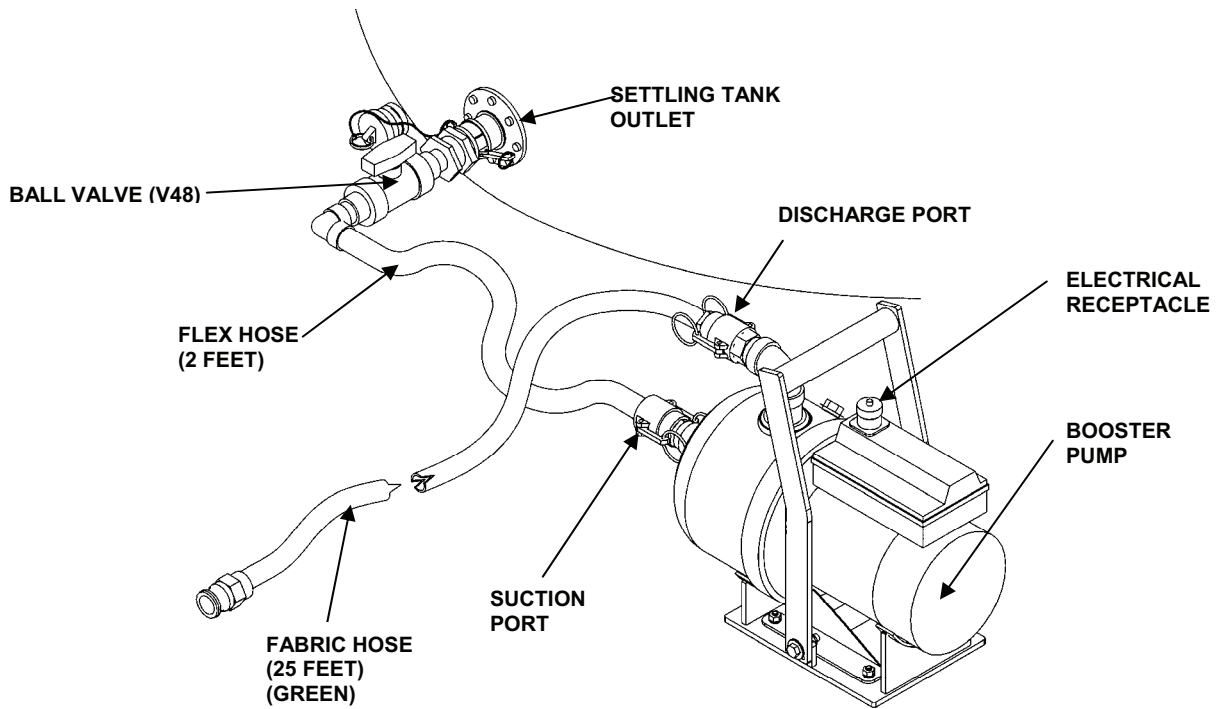

Figure 2. Booster Pump Hose Connections.
3. Connect the hose on the settling tank outlet spool piece to the suction port of the booster pump. See Figure 2.
5. Connect a section of fabric hose (green) to the discharge port of the booster service pump. See Figure 2 and Table 1.